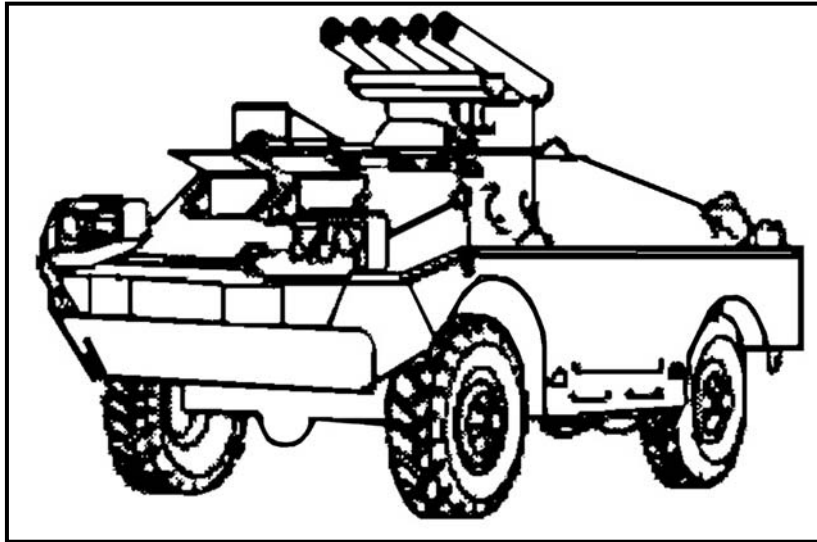

Figure H-12. Russian ATGM launcher vehicle, 9P148.
b. **Russian ATGM Launcher Vehicle, 9P148** (Figure H-12, page H-10).